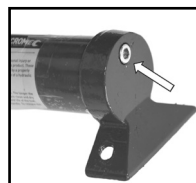
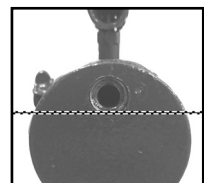

Fig.9
Fig.10
- b. Place Pump Assembly (1) horizontally on a flat and leveled surface (Fig 9).
- c. Remove filler plug (Fig 9) and add high quality hydraulic oil such as Kincromes' K12400 (HYDRAULIC JACK OIL 500ML) until the oil reaches the bottom of the filler plug (Fig 10).
- d. Reinstall the filler plug (Fig 9)